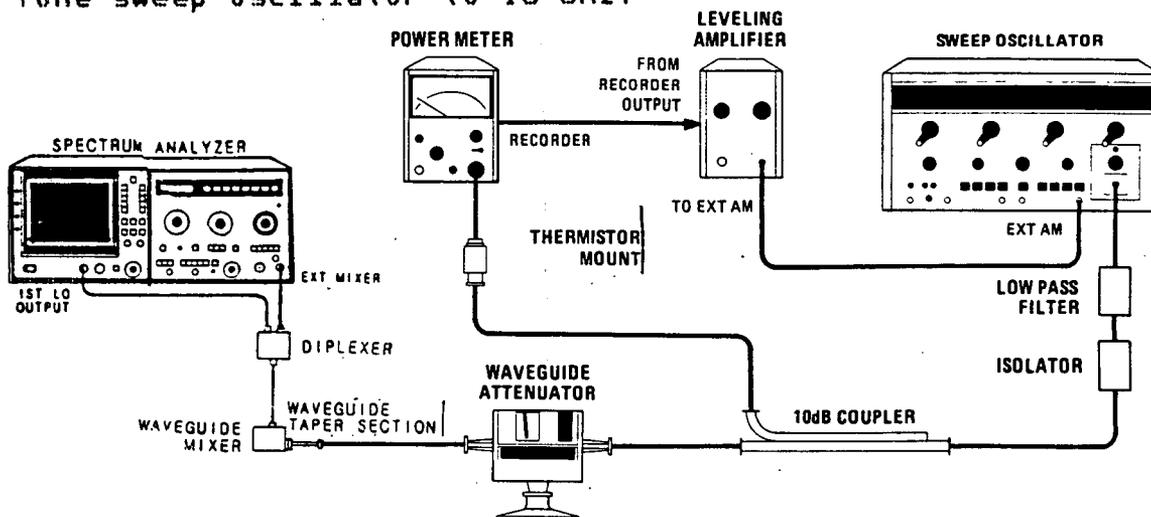

Figure 4-38.
23. Using the 18.0 to 26.5 GHz source (HP 8696A), connect equipment as shown in Figure 4-38. The waveguide components used must have a "k" band prefix. Set waveguide attenuator to 25 dB. Set sweep oscillator to CW, START STOP, and EXT AM modes.
26. Turn sweep oscillator RF on and RF Plug-in POWER LEVEL to full on (CW). Set LEVELING AMPLIFIER GAIN to mid-range and adjust LEVELING AMPLIFIER POWER LEVEL for -5 dBm scale reading on the power meter (power equals -10 dBm for this range setting). Tune sweep oscillator to 18 GHz.
32. Using the 26.5 to 40 GHz source (HP 8697A), connect equipment as shown in Figure 4-38. The waveguide components used must have a "r" band prefix. Select 4-8 GHz mode on sweep oscillator control unit and tune to 28 GHz. Turn RF to STANDBY.